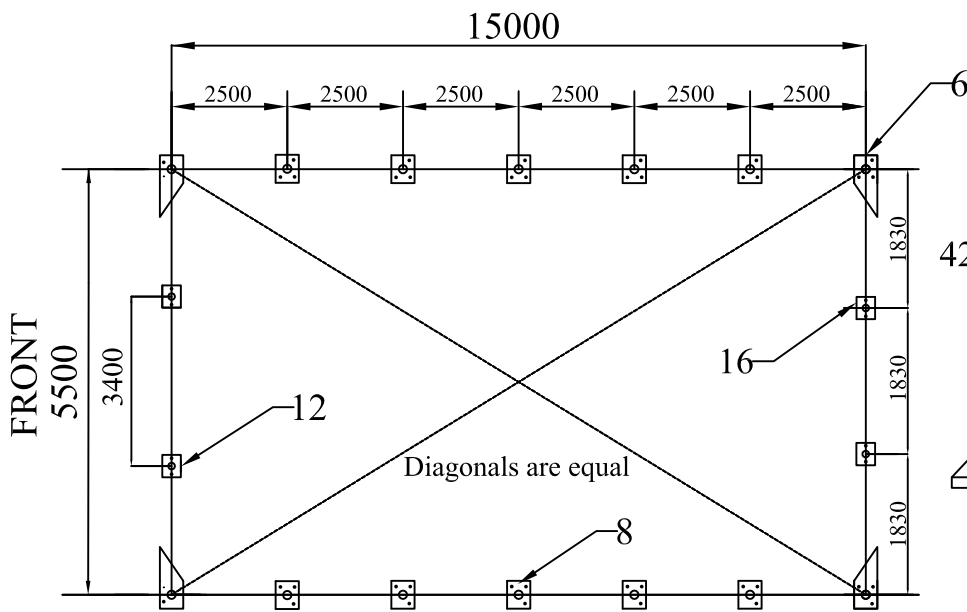

Figure 2 Position of Base Flanges
Begin by determining exact location of the four (4) corners of the building. Mark front edge and side-to-side width of assembly on ground. Drive alignment stakes into the ground outside of the markings, and draw alignment strings along both ends and sides of the building to the dimensions shown in Figure 2. The outline of the strings will represent the final location of the base flanges. The initial location of each Corner Base Flanges(part #6) is critical to the alignment and fit of the frame components and cover.
Locate the Left Corner Base Flange and Right Corner Base Flange(part #6). Secure the base flanges with Stake Pegs (Part #42). Measurements shown in Figure 2 are to the center of the upright sockets on each Base Flange.